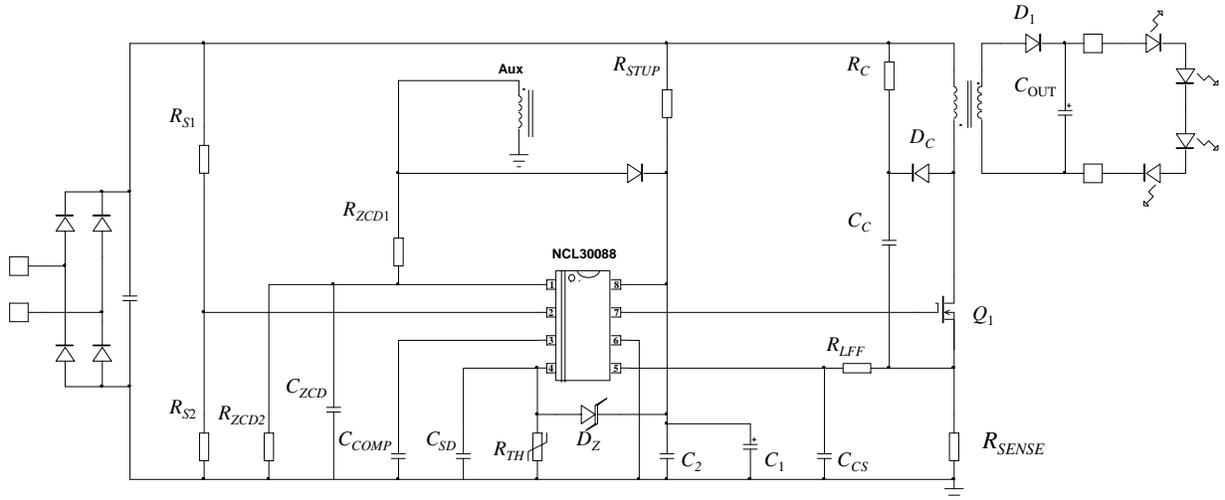
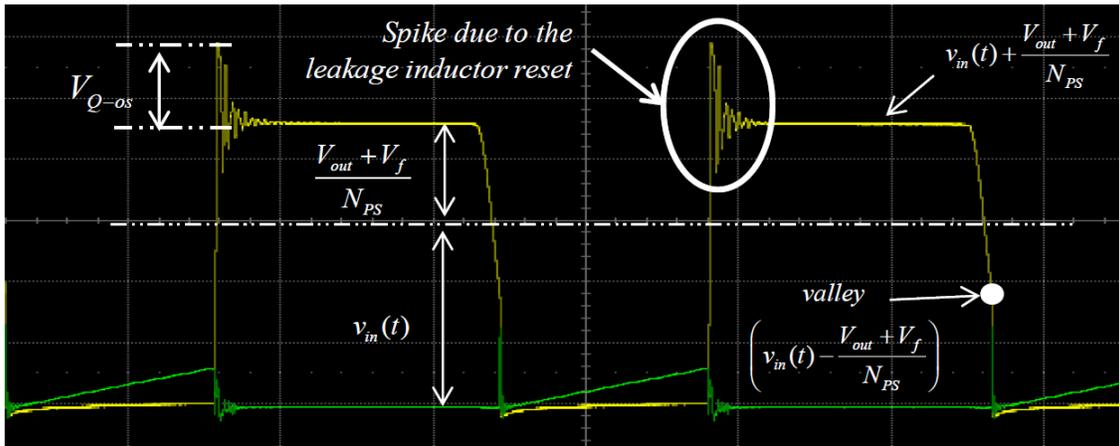

Figure 2. Basic Schematic
Figure 3. MOSFET Drain-source Voltage (Yellow Trace) and Current (Blue)
In general,  $N_{PS}$ , the secondary to primary transformer turns ratio ( $N_{PS} = n_S / n_P$  [ $n_P$  designates the primary number of turns,  $n_S$ , the secondary number of turns]) is selected as low as possible so that the input current stress is reduced.  $N_{PS}$  cannot be too small however.  $N_{PS}$  sets the amount of voltage reflected during the off-time (see Figure 3) and hence, must be high enough to limit the voltage stress across the primary-side MOSFET. Indeed, the voltage to be sustained by the primary-side MOSFET and the output diode are:
- $V_{Q-ov}$  is the MOSFET overvoltage shown in Figure 3. This overshoot is due to the leakage inductor reset. It is limited by the clamping network consisting of  $D_C$ ,  $C_C$  and  $R_C$  of Figure 2.
a circuit requires a diode, a resistor and a capacitor ( $D_C$ ,  $R_C$  and  $C_C$  of Figure 2):